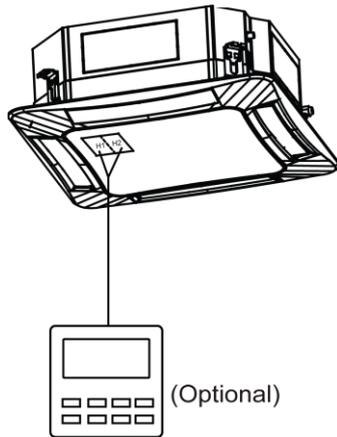
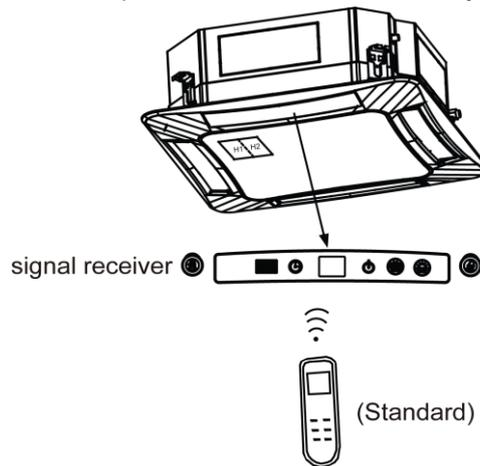

Fig 5.4.1
Fig 5.4.2
1) Wired controller (standard) is shown as Fig.5.4.1, wireless controller (optional) is shown as Fig.5.4.2, signal receiver is provided with panel as standard accessory.